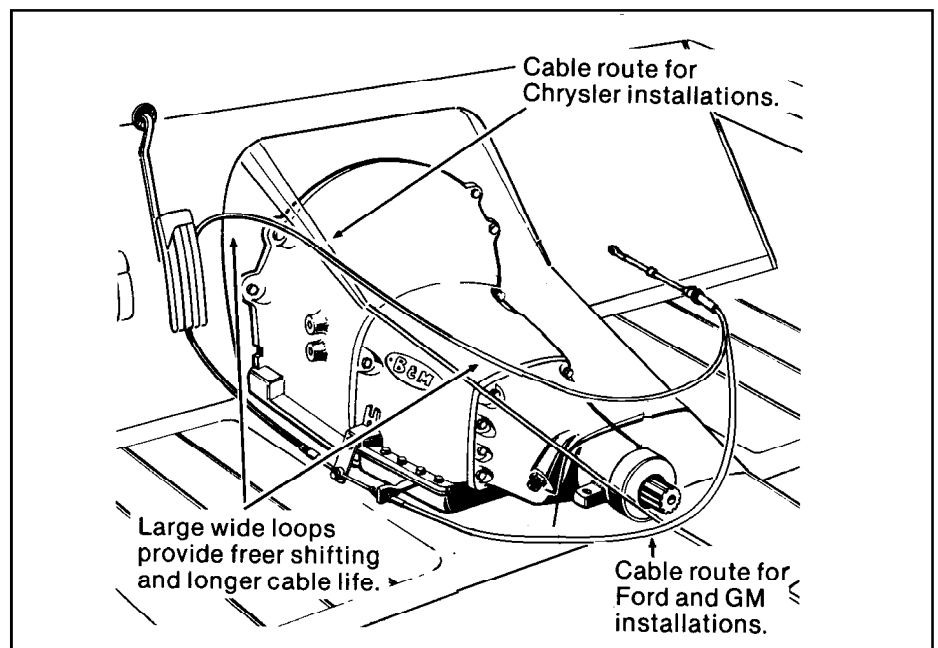

Figure 3
STEP 9. Install the shifter mechanism into the vehicle. Slide the shifter cable through the carpet and the hole in floor. Bolt the shifter down using four 1/4" x 1-1/2" hex bolts and nuts. If required use 1/4" washers as shims between the shifter mechanism and the floor to level the shifter. **ROUTE THE CABLE AS SHOWN IN FIGURE 3, AVOID SHARP BEND OR KINKS WHICH WILL DAMAGE THE CABLE.** Use cable clamps or tie wraps to secure the cable housing to the chassis to avoid contact with hot engine or exhaust system.
STEP 13. Route the shifter cable according to Figure 3. Avoid kinks and sharp bends and route the cable away from hot engine or exhaust parts.
STEP 19. Route the shifter cable according to **Figure 3**. Avoid kinks and sharp bends and route the cable away from hot engine or exhaust parts.
STEP 24. Route the shifter cable according to **Figure 3**. Avoid kinks and sharp bends and route the cable away from hot engine or exhaust parts.